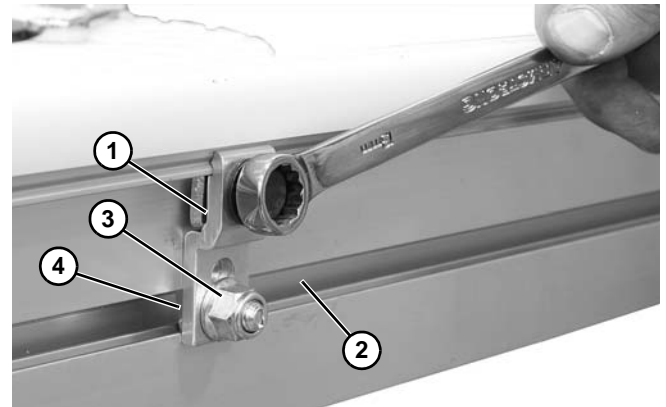

Figure 75
1. Install clip assembly (**Figure 75, item 1**) into side rail channel (**Figure 75, item 2**). The end clips should be no greater than 12" from the end of the conveyor.
*Make sure that the studs (**Figure 75, item 4**) rotate inside the channel and engage with the conveyor.*
2. Fasten clip (**Figure 75, item 1**) to conveyor with nut (**Figure 75, item 3**) on stud.